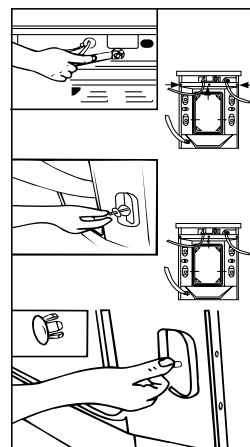

Fig.2
- Dismantle the packing bolts as shown in Fig. 2.